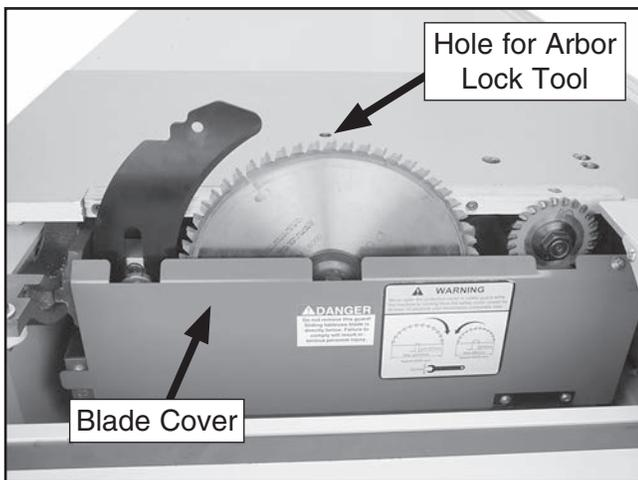

Figure 42. Blade cover made accessible with sliding table moved out of the way.
3. Move the sliding table out of the way to expose the lower blade cover that covers the blades and riving knife, as shown in **Figure 42**.
5. Insert the arbor lock tool into the hole shown in **Figure 42**, then rotate the blade by hand until the arbor lock tool seats.